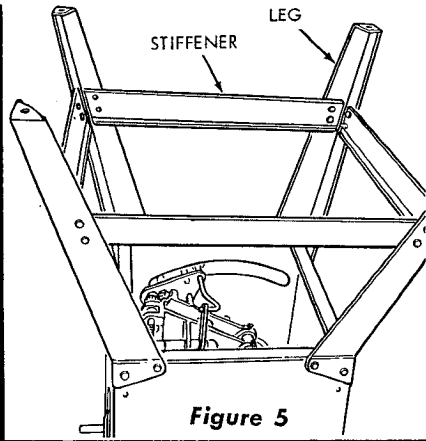
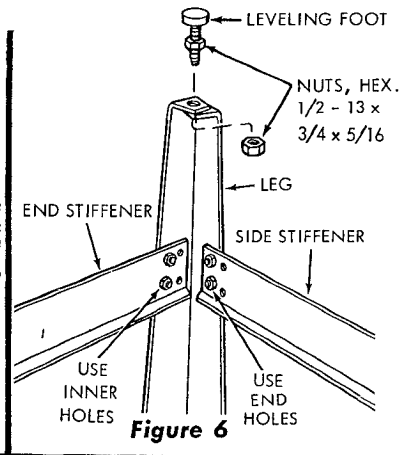

Figure 5
Figure 6
feners. (See figure 5.) Using parts from the correct loose parts bag, assemble the legs to the saw base with the sixteen 5/16-18 x 5/8 inch screws and 5/16-18 nuts. (See figure 6.) Leave these screws loose in order to facilitate mounting the stiffeners. All four leg stiffeners are identical and since the distance on the sides is greater than the distance on the ends, the leg stiffeners used on the sides should be attached at outer holes while the stiffeners at the ends should be attached at inner holes. (See figure 6.)
- (2) Assemble the four stiffeners with sixteen 1/4-20 x 1/2 inch screws and 1/4-20 inch nuts. After stiffeners are all in place, tighten all screws securely. Install leveling feet, each with 2 1/2-13 x 3/4 x 5/16 hex nuts. (See figure 6.)
- (3) Place the saw in an upright position on its legs.